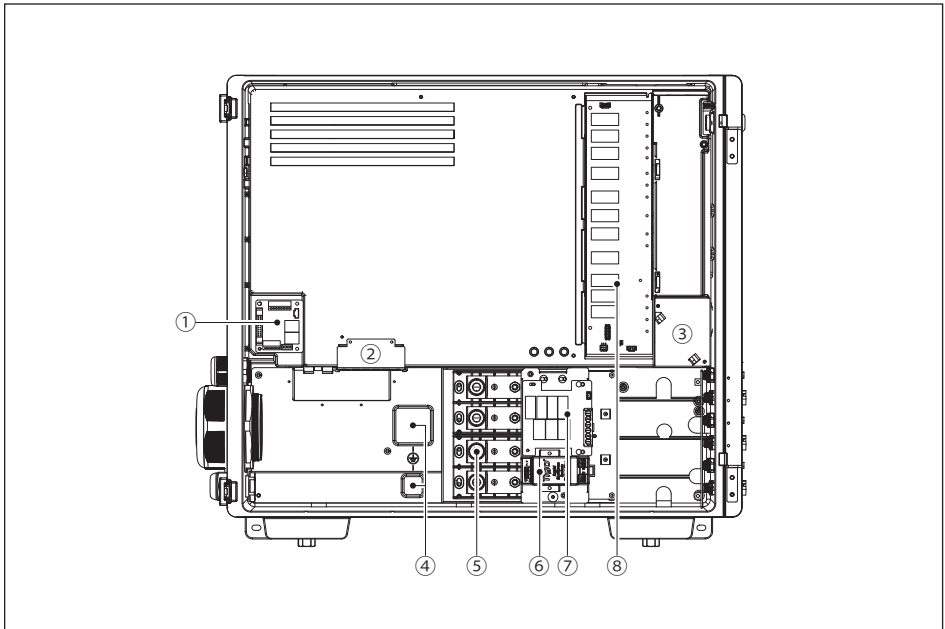

Figure 2-4: layout
Figure 2-4 illustrate the general layout of the inverter chassis and wiring area. The wiring area includes terminals for connection of the output (AC) wiring, surge protection devices (SPD).